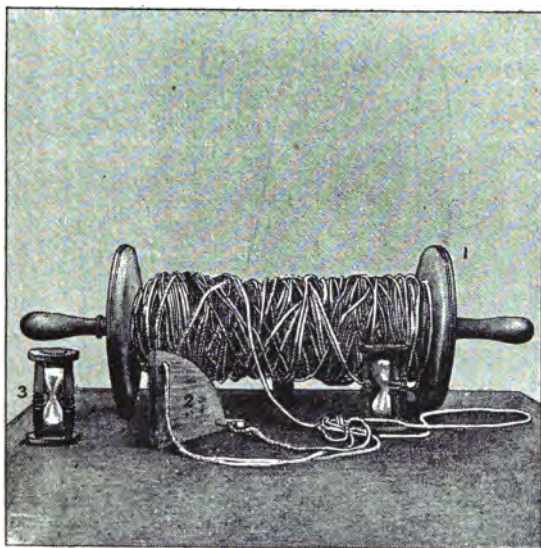

FIG. 19.—LOG-LINE, ETC.
The gear of this sounding machine is handy for use with the ordinary Log-ship * (Fig. 19). A log-ship (2) replaces the lead, and the apparatus becomes an ordinary log-line on the following plan : A line is attached to each corner of a piece of wood shaped like 2, Fig. 19. A plug, which can be withdrawn, is fitted into one of the corners. The bottom is leaded, so that the wood floats upwards, a sand-glass (3) is used which runs to 28 seconds. The problem
When the shrouds are cut to the required length, fit them in pairs. The bight forms the eye which goes over the masthead. Proceed to splice the ends round the dead-eyes, or into the heart of the screws. Each pair of shrouds, as they are finished, should be carefully marked with a canvas tally. The shrouds are sometimes served all over, but this is absolutely necessary only in the eye, and over the splices. Good three yarn, spun yarn, or amber line should be used. A coating of tar will prevent rust. Plenty of room must be allowed in the eyes that go over the masthead. The parts should be well seized together with a throat seizing (Fig. 19), which ought to come well below the bolsters. If a shroud is found to be too long, or too short, when the rigging is finished, corrections may be made by putting in, or taking out, a turn.